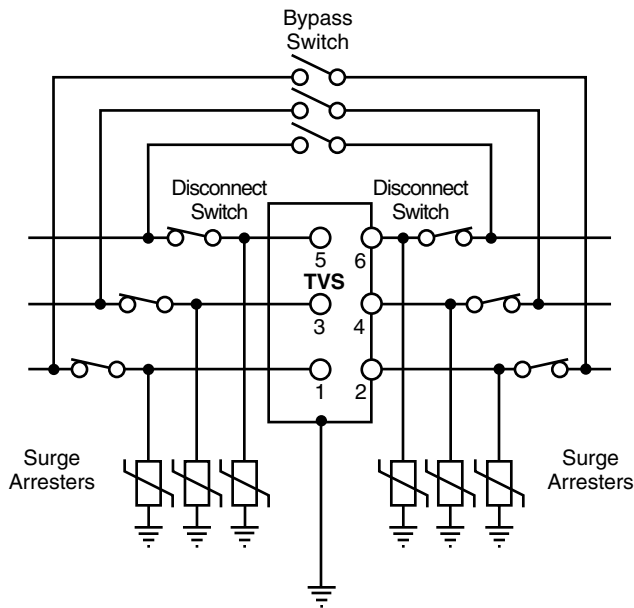

Figure 9.
- 6. Make high-voltage line connections** (Figure 9).